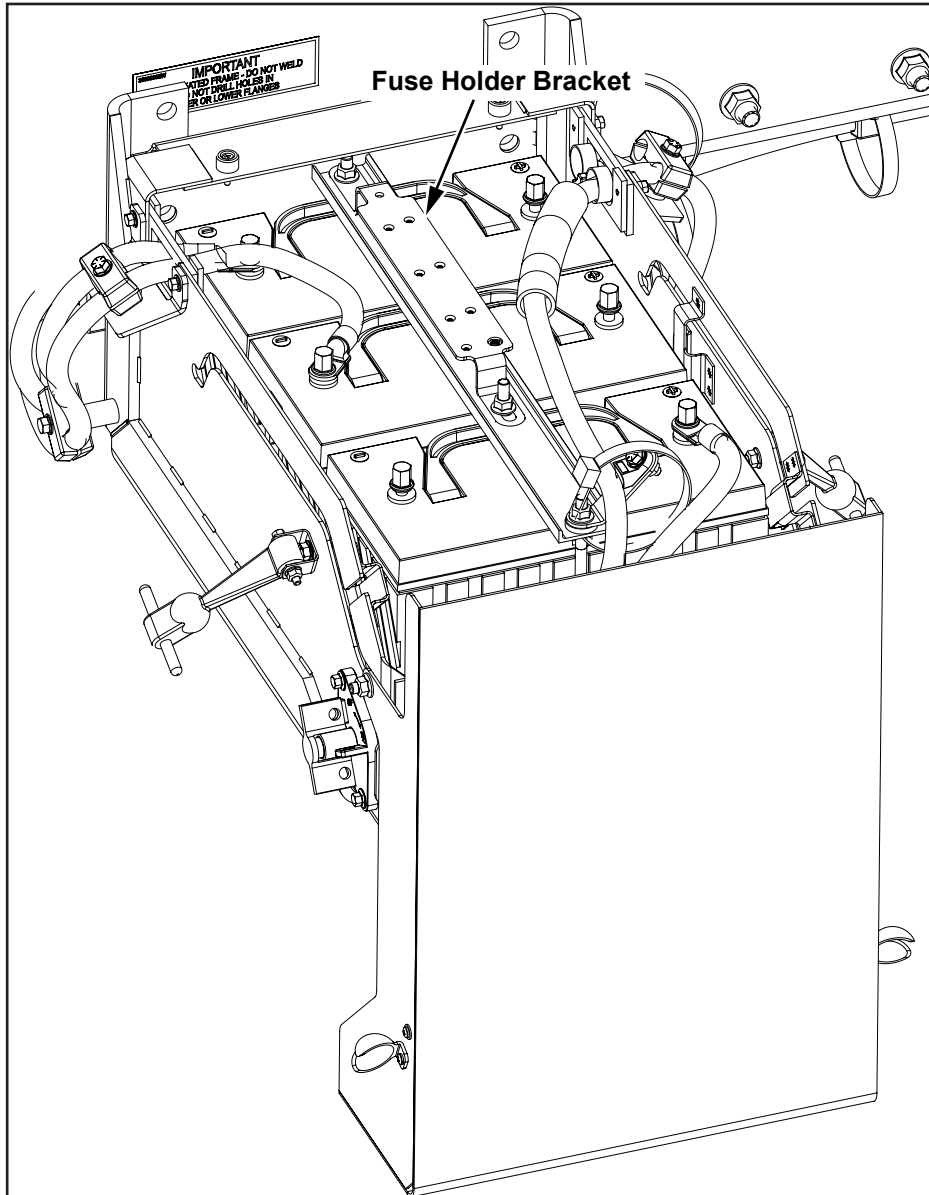

Figure 9, A8710102-001
16. Reinstall the batteries if removed and install the A8710102-001 fuse holder bracket on the battery bracket using the existing fasteners (see Figure 9).